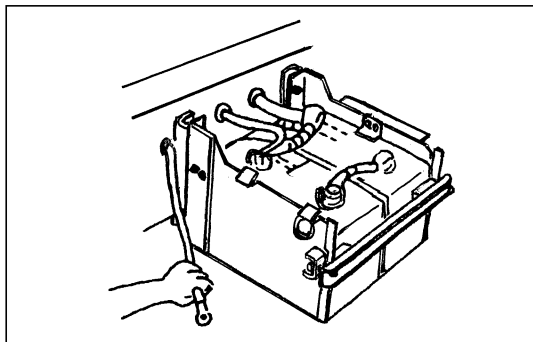

Fig. 1 ASM20-042
**NOTE:** If you use a high-pressure washer, do not direct the washer hose on the electrical parts. (Fig. 1 illustrates chassis model SG)